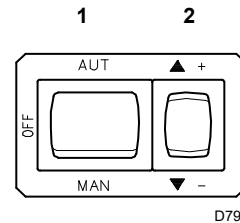
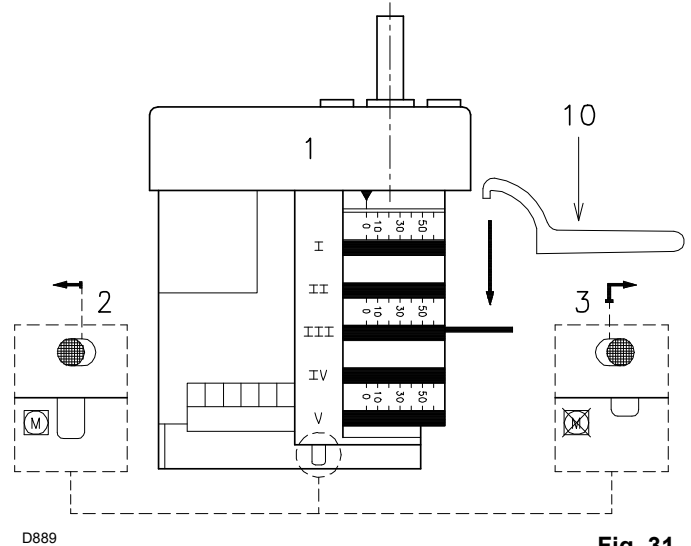

Fig. 27
Fig. 31
- Start the burner by closing the control devices with switch 1)(Fig. 27) in the "MAN" position. As soon as the burner starts, check the direction of rotation of the fan blade, by looking through the flame inspection window 25)(Fig. 4 on page 10).
- The pump can be considered primed when the light oil starts coming out of the screw 3). Stop the burner: switch 1)(Fig. 27 on page 24) set to "OFF" and tighten the screw 3).
Close load controls and set switch 1)(Fig. 27) to "MAN". After burner firing a complete burner adjustment should be performed.
Set switch 1)(Fig. 27) to "ON".
In the above instructions we left the burner running in MIN output operation. Now press button 2)(Fig. 27) "+" until servomotor arrives at 130°.
Press button 2)(Fig. 27 on page 24) “output reduction“ and keep it pressed until the servomotor has reached 20° (factory setting).
Press the switch 2)(Fig. 27 on page 24) “output increase“ a little so that the servomotor turns by about 15°. Adjust the screws until optimal combustion is obtained. Proceed in the same way with the other screws.
Switch the burner off with switch 1)(Fig. 27 on page 24), at the OFF position, disengage the cam 2)(Fig. 30) from the servomotor, by pressing the button 3)(Fig. 31) and moving it to the right, and check more than once that the movement is soft and smooth, and does not grip, by rotating the cam 2) forward and backward by hand.
Engage cam 2) to the servomotor again by moving button 2)(Fig. 31) to the left.
In order to adjust cam III, especially for fine movements, key 10)(Fig. 31), held by a magnet under the servomotor, can be used.
- 6 s :** Servomotor starts: 130° rotation to right, until contact is made on cam I)(Fig. 31 on page 26).The air gate valve is positioned on MAX. output.
- 85 s :** Servomotor rotates to left until contact is made on cam III) (Fig. 31 on page 26).
- The burner locks out when demand for heat is less than the heat supplied by the burner in the MIN output (section F-G). Load control TL opens. The servomotor returns to the 0° angle limited by contact with cam II)(Fig. 31 on page 26). The gate valve closes completely to reduce thermal dispersion to a minimum.
Disengage the cam 2)(Fig. 31 on page 26) from the servomotor, by pressing and moving button 3)(Fig. 31 on page 26) towards the right, and turn it backwards and forwards by hand to make sure it moves freely. Now engage the cam again by moving the button 2)(Fig. 31 on page 26) to the left.